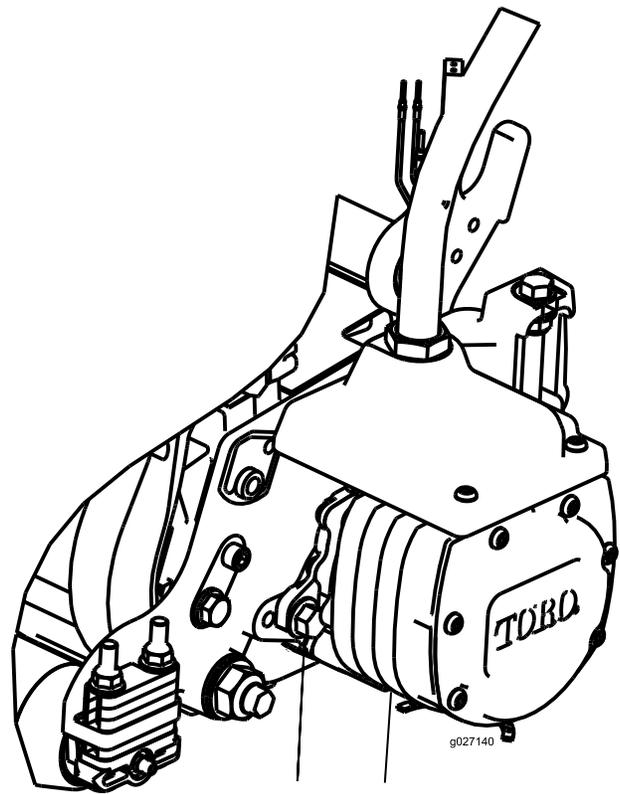

Figure 11
14. Install the motor by rotating it clockwise so that the motor flanges clear the bolts (Figure 11). Rotate the motor counterclockwise until the flanges encircle the bolts then tighten the bolts.